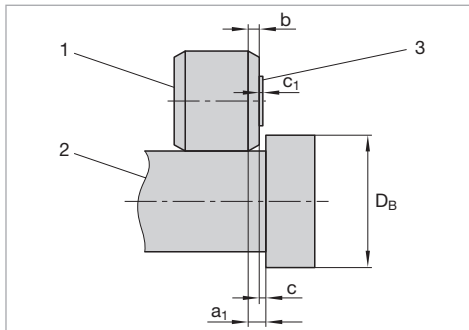

Figure 1: Distance of the thread roll from the shoulder
The thread can be produced on the workpiece very close to a shoulder, or similar. In such cases, corresponding safety distances must always be maintained (see Figure 1). The thread roll (1) must have the safety distance c to the shoulder of the workpiece (2). The screwable thread begins at the distance a₁ from the shoulder. The following applies: a₁ = b + c [mm]